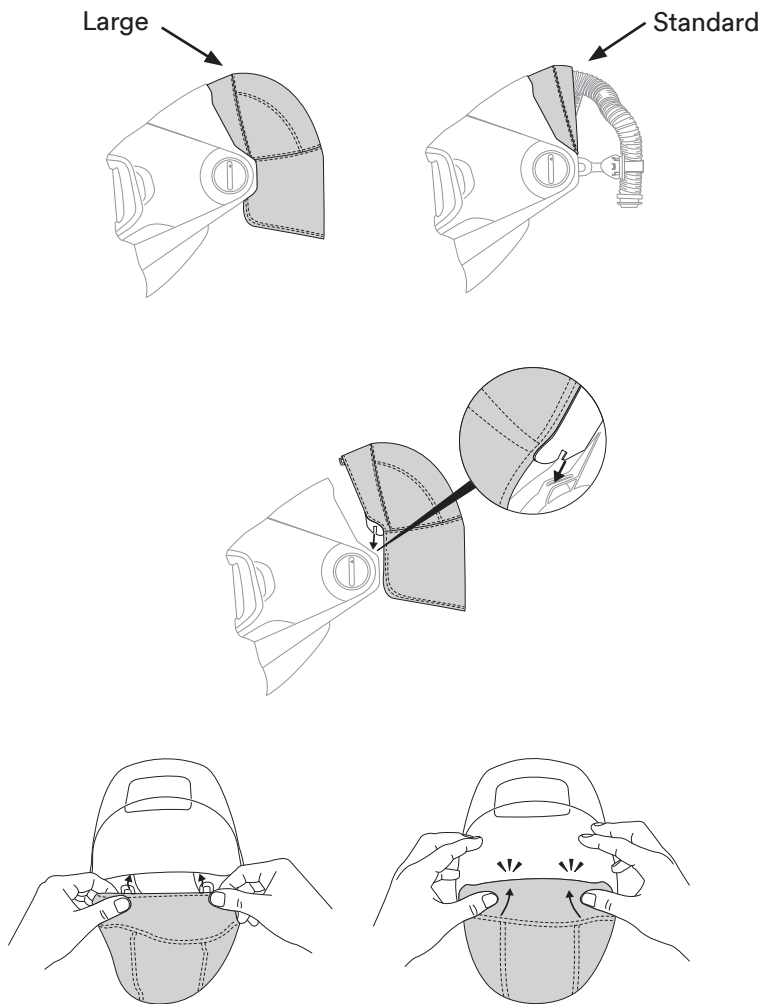

Fig. 17a
- b. There are two clips located at the crown of the head cover. Insert them into the clips on inside of the welding helmet. An audible “click” will indicate they are in place (Fig. 17a)
d. Re-install the head cover as seen above in Fig. 17a.